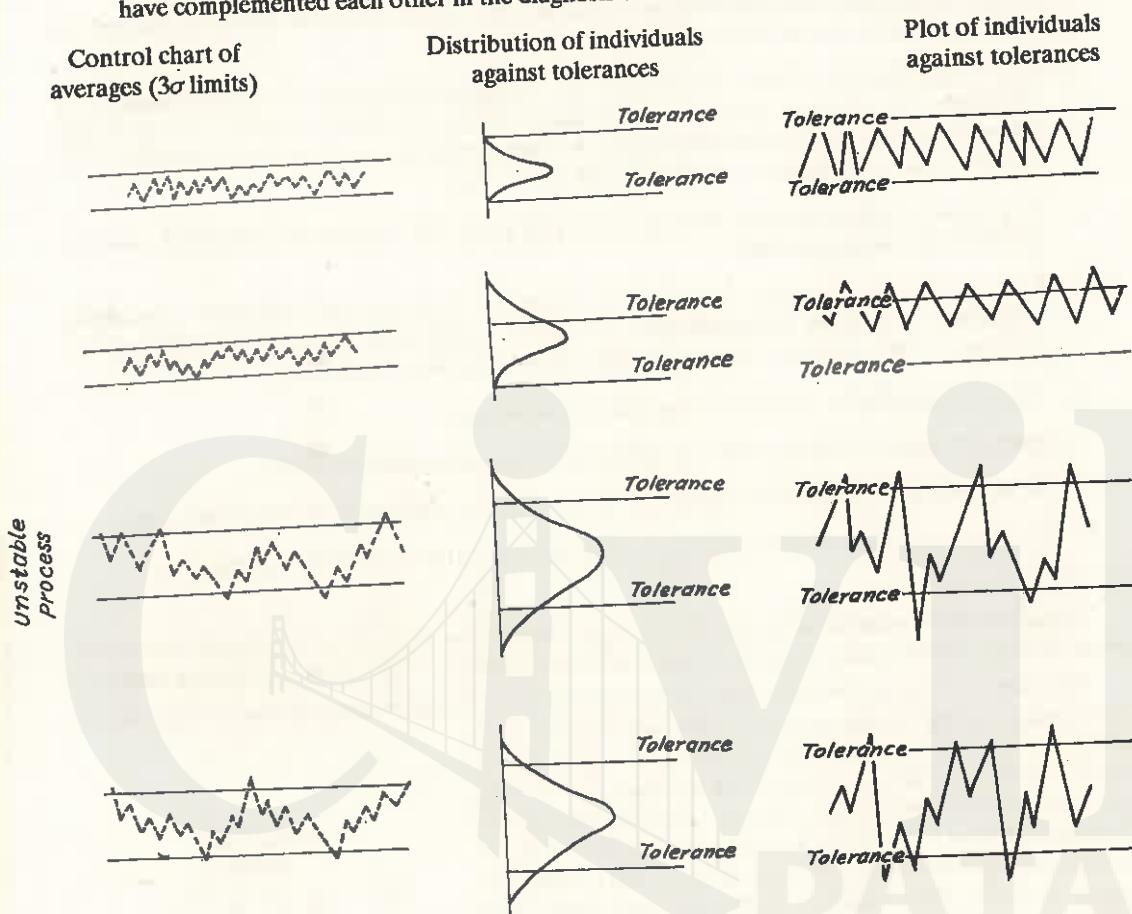

Fig. 8.10. Results of process capability analysis.
- (c) Calculate control limits and plot average and range control charts (refer Fig. 8.10). This measures the stability of the process i.e., the extent to which it changes with time.
- Refer Fig. 8.10(a). Note that the control limits on sample averages are narrower than the tolerance limits on individual values because averages vary less than individuals.
- If the capability is outside the tolerance limits [Fig. 8.10(d)] then only a basic process change or widening the tolerances will completely solve the problem.